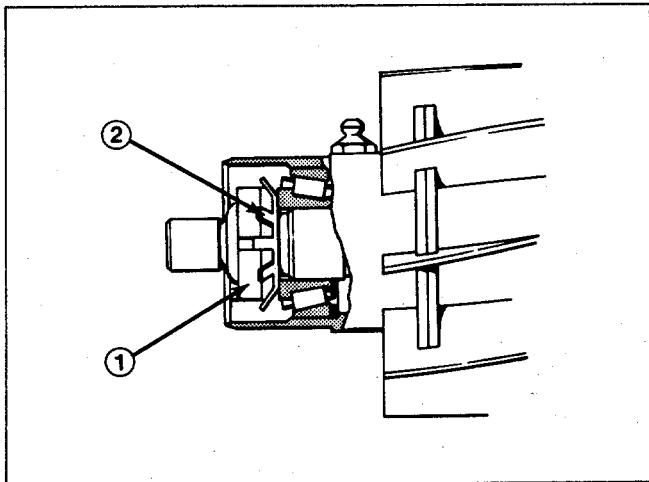

Figure 49
5. If bearings need adjustment, locate and remove lock tab from lockwasher inserted into slot on locknut (Fig. 49).
6. Adjust locknut in small increments and check for proper preload. Bend ears of lockwasher into slots on locknut when adjustment is completed to secure locknut (Fig. 49).